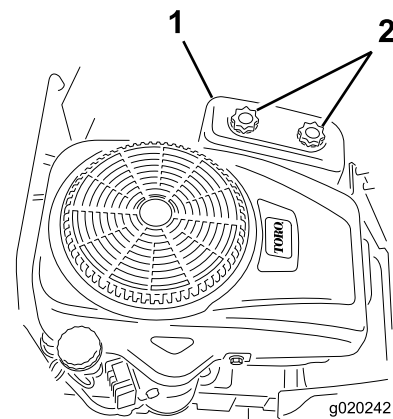

Figure 37
4. Remove the air-cleaner cover by unscrewing the 2 knobs (Figure 37).
3. Install the air-cleaner cover, and tighten the 2 knobs (Figure 37).